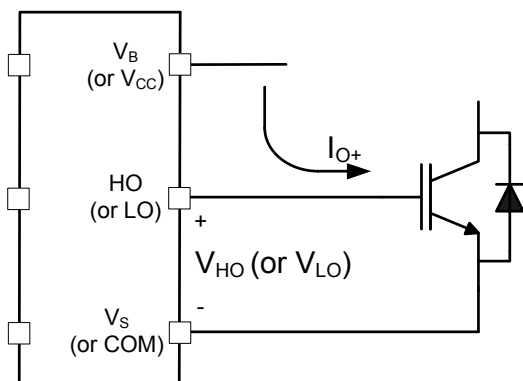

Figure 1: HVIC sourcing current
The IRS233(2,0)(D) HVICs are designed to drive up to six MOSFET or IGBT power devices. Figures 1 and 2 illustrate several parameters associated with the gate drive functionality of the HVIC. The output current of the HVIC, used to drive the gate of the power switch, is defined as I_{O+} . The voltage that drives the gate of the external power switch is defined as V_{HO} for the high-side power switch and V_{LO} for the low-side power switch; this parameter is sometimes generically called V_{OUT} and in this case does not differentiate between the high-side or low-side output voltage.